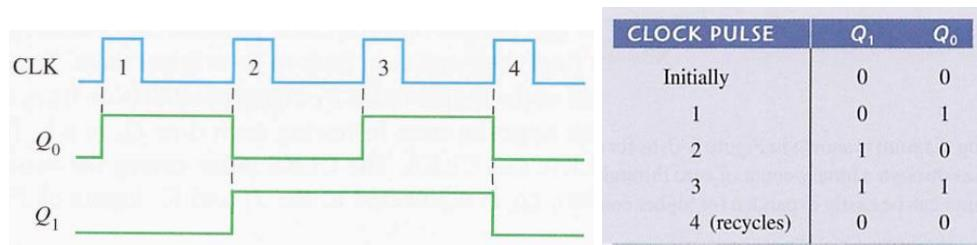

Fig. 5.15
- iv- Finally, at the leading edge of CLK4, Q_0 and Q_1 go LOW because they both have a toggle condition on their J and K inputs. The counter has now recycled to its original state, binary 0. The complete timing diagram and truth table for the counter is shown in Fig. 5.15.